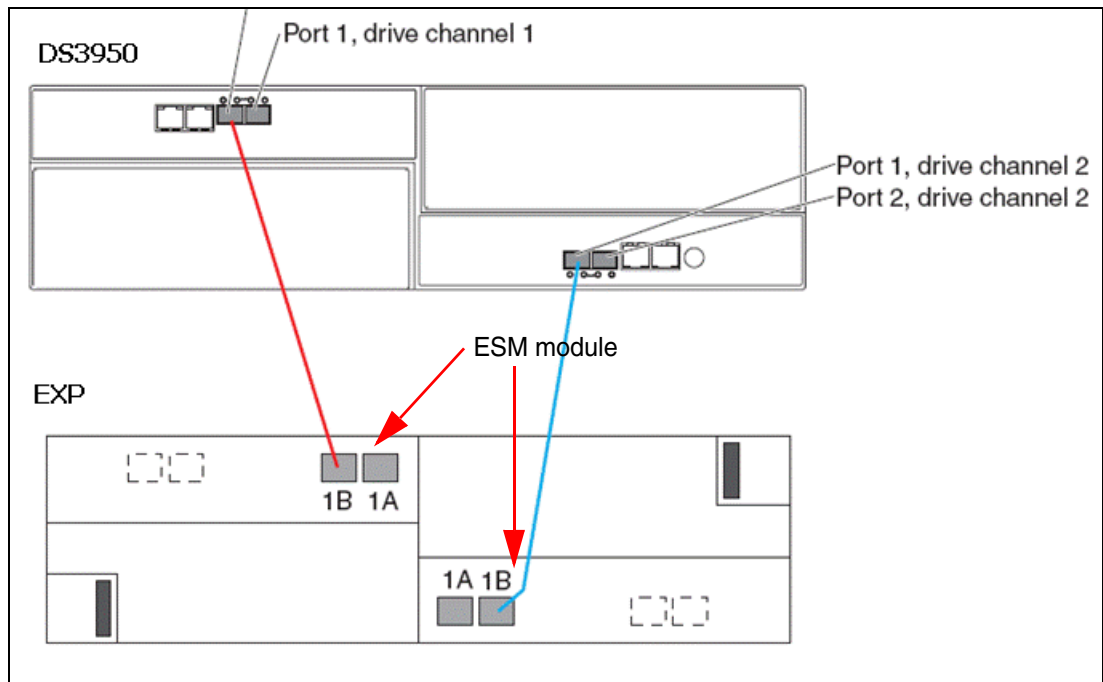

Figure 11 DS3950 drive cabling with one EXP
- ▶ The DS3950 controller drive port must only be connected to the EXP395 or EXP810 port labelled 1B. Because the left (ESM A) and right (ESM B) enclosure service modules (ESM) are inserted in different orientations, ensure that you use the port labeled 1B before making the Fibre Channel connection to the DS3950 storage subsystem, as shown in Figure 11.
- ▶ If you attach only one enclosure, make sure that you have one connection to each of the controllers, thus using one of the two ports on each controller (controller A port 2 and controller B port 1), as shown in Figure 11.